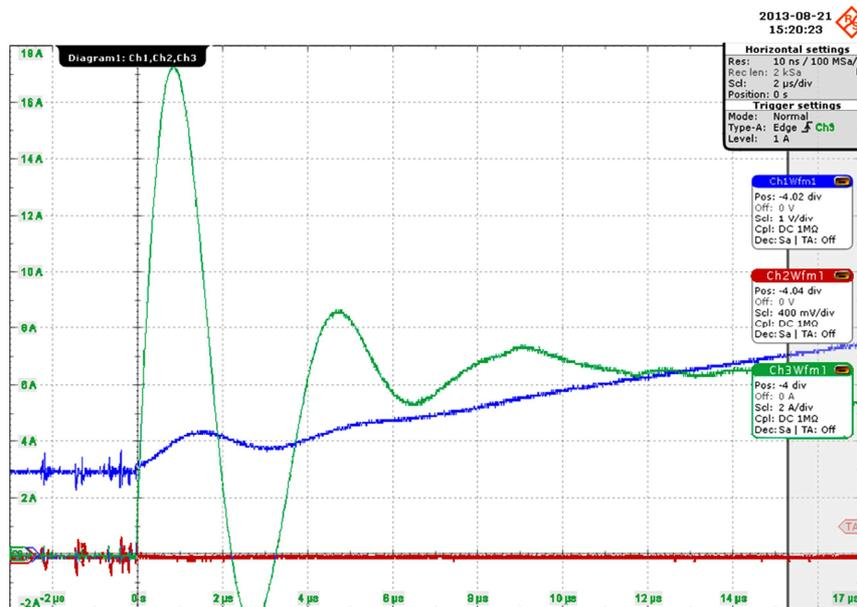

Figure 6: Zoom-in of Waveform display of manual Inrush Current and start-up/soft-start measurements
(11) Zooming in by a factor of 10, Figure 6, shows the detail of the capacitor charge peak (Ch 3, green trace) of nearly 18 A! Note that the peak is almost off-screen, indicating the care needed to estimate the peak inrush current.